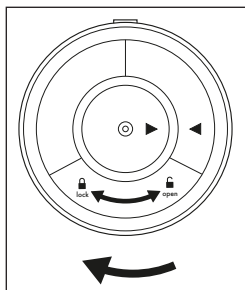

Fig. 2
7. Replace the battery compartment latch 13. Turn the battery compartment latch 13 clockwise towards the lock  symbol until the two symbols ► ◀ are aligned and the battery compartment latch 13 audibly clicks into place (see fig. 2).